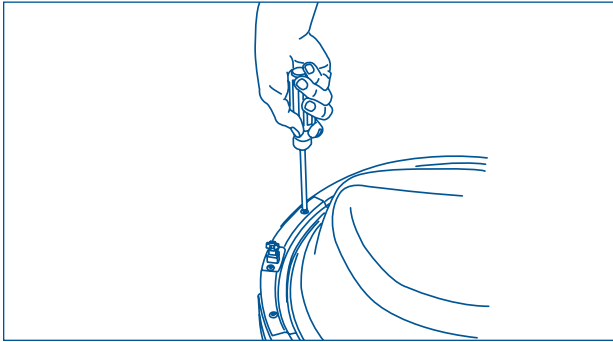

Figure 2-24.
1. Remove 2 long, coarse-thread, counter-sunk screws and striker plate. (See Figure 2-24)